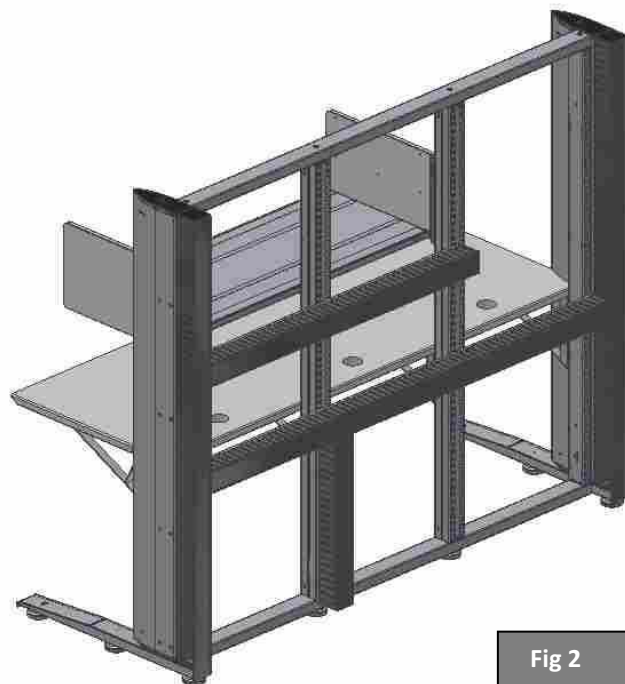

Fig 2
- Usually located behind and accessory (**trays, tables, etc.**) for routing cables (Fig.2).